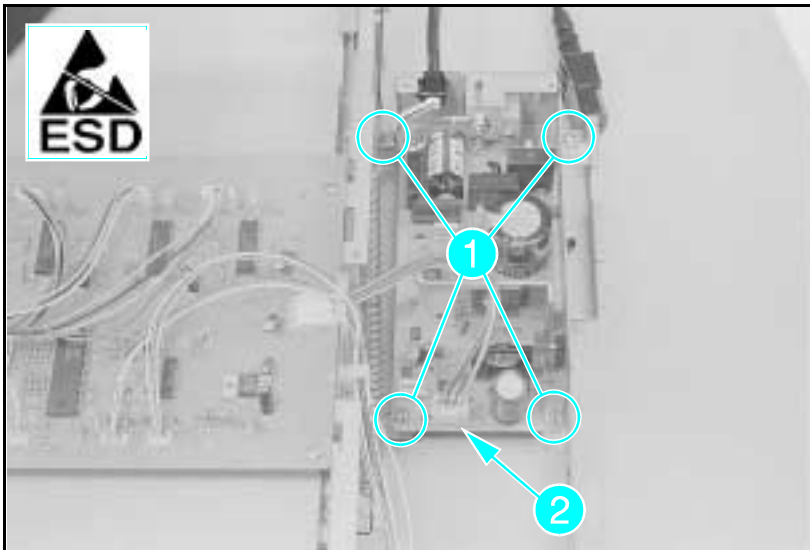

Figure A-18 Power PCA
- 1 Remove the (6) cover screws, (4) on the top and (2) on the side. Remove the cover.
- 2 Remove the (4) screws from the Power PCA (see Figure A-18, callout 1).
- 3 Unplug the connector (see Figure A-18, callout 2).